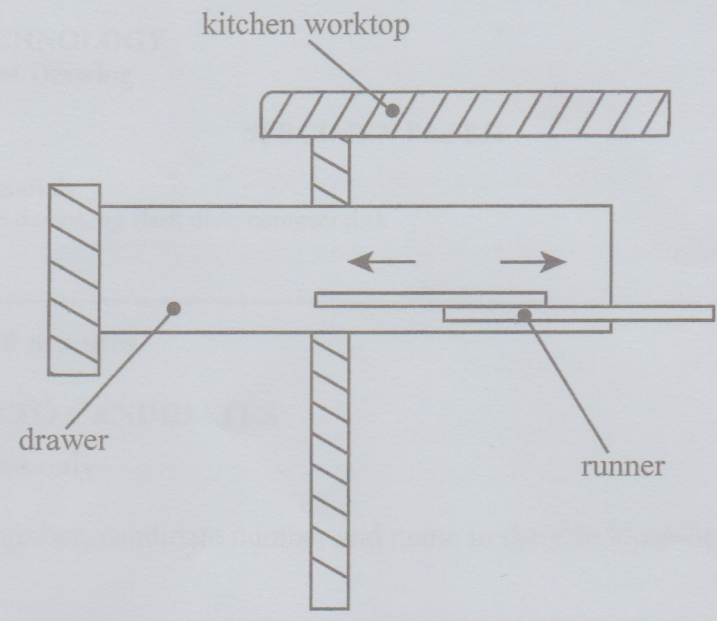

Figure 1
3. (a) **Figure 1** shows part of a kitchen top in section.
- (a) Using the given diagram in **Figure 1** design and produce a mechanism suitable for testing the runner by moving it back and forth. [25]